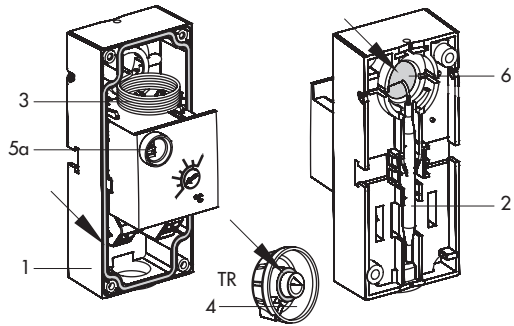

Fig. 5-2: Single thermostat · Inside view
- Do not remove the seals in the housing (1) and on the set point adjuster of the temperature regulator (4). See Fig. 5-2.
- The thermostat must only be operated with an inserted seal (6). See Fig. 5-2.
The supplied seal must be inserted to meet the requirements for degree of protection IP 54 (see Fig. 5-2).